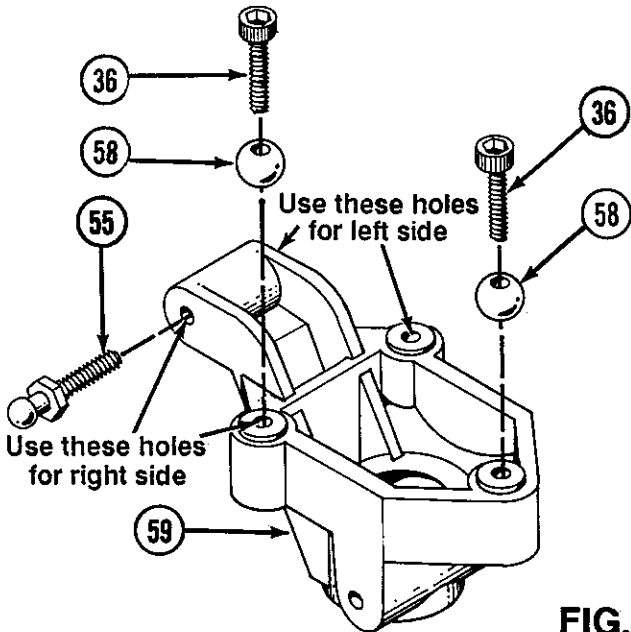

FIG. 23
8. Thread one composite ball joint into top forward corner hole in the hub carrier (59) so that it can just spin freely. Fig. 23.
9. Thread one composite ball joint into bottom hole in hub carrier (59). Fig. 23.
10. Thread a one 3/8" studded ball joint (55) from the front into topmost hole in hub carrier (59). Fig. 23.